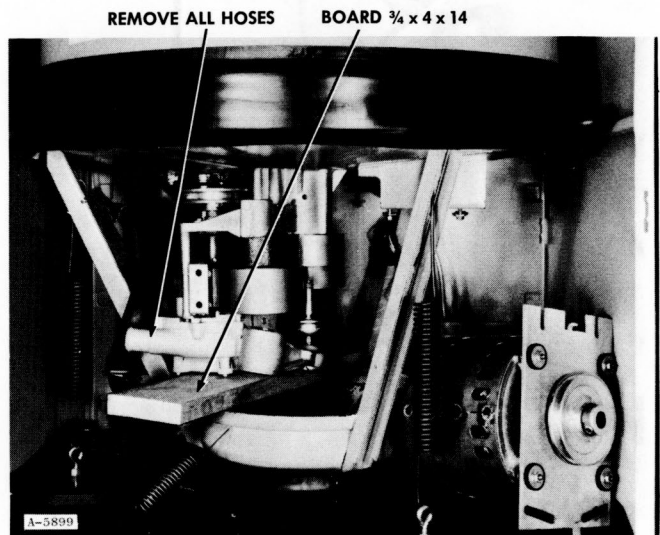

Figure 125
7. Place a piece of wood $\frac{3}{4}$ x 4 x 14 under the mechanism for support, Fig. 125.